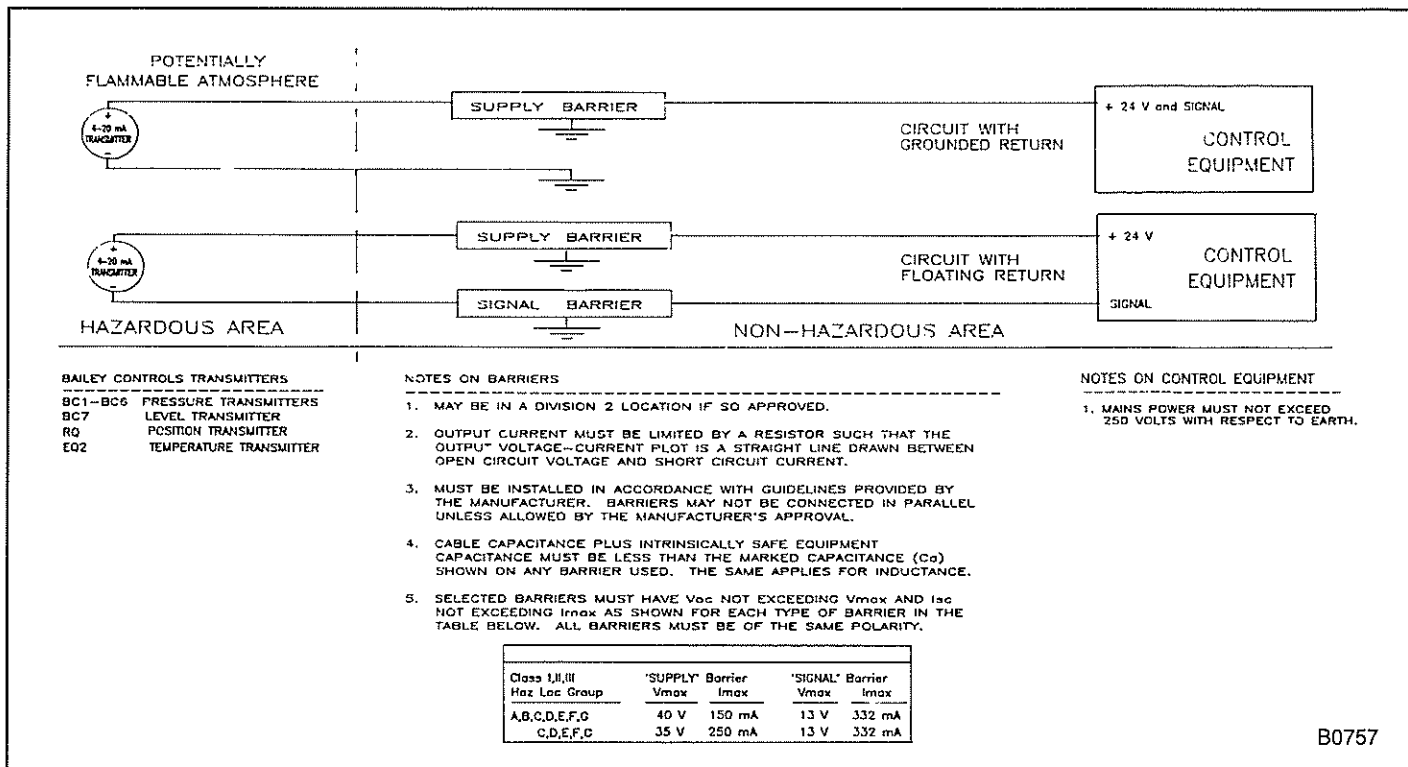

FIGURE A1 – Factory Mutual Approved Entity Parameters
Factory Mutual (FM) approved with entity rated barriers that do not exceed 40 volts (Voc) and 332 mA (Isc) (See Figure A1).